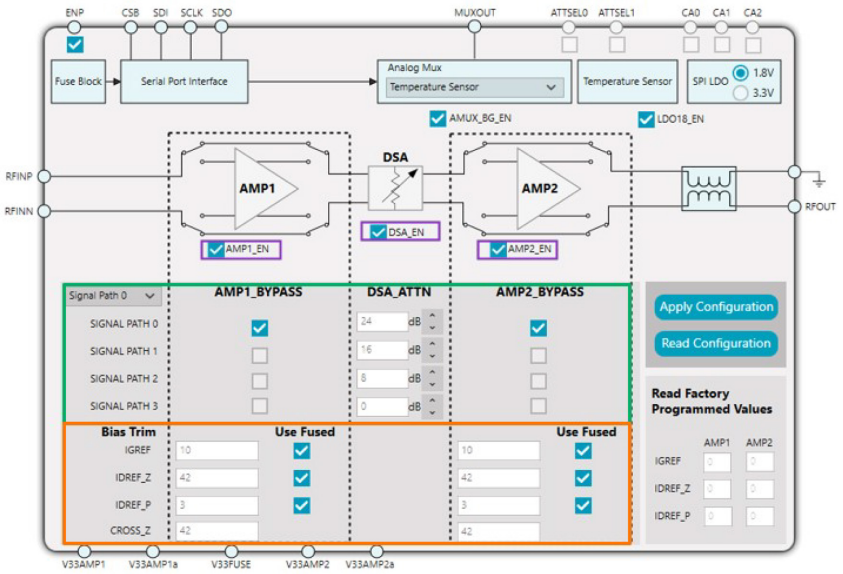

Figure 9. ADL6331 IC Level View (ENP Set to High)
5. Enable each block of AMP1, AMP2, and DSA. Configure the four RF preconfigurations by selecting the AMP1 and AMP2 bypass modes, as well as setting up the DSA attenuation levels. Use default settings for the bias trim with **Use Fused** boxes checked for the ADL6331-EVALZA only. For the ADL6331-EVALZB, to achieve the optimal OIP3 performance, **CROSS_Z** of both **AMP1** and **AMP2** need to be set to 0 (see Figure 9).